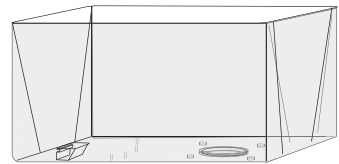

Fig. 1
1. Insert the large rubber gasket into the bottom of the tank [Fig. 1].